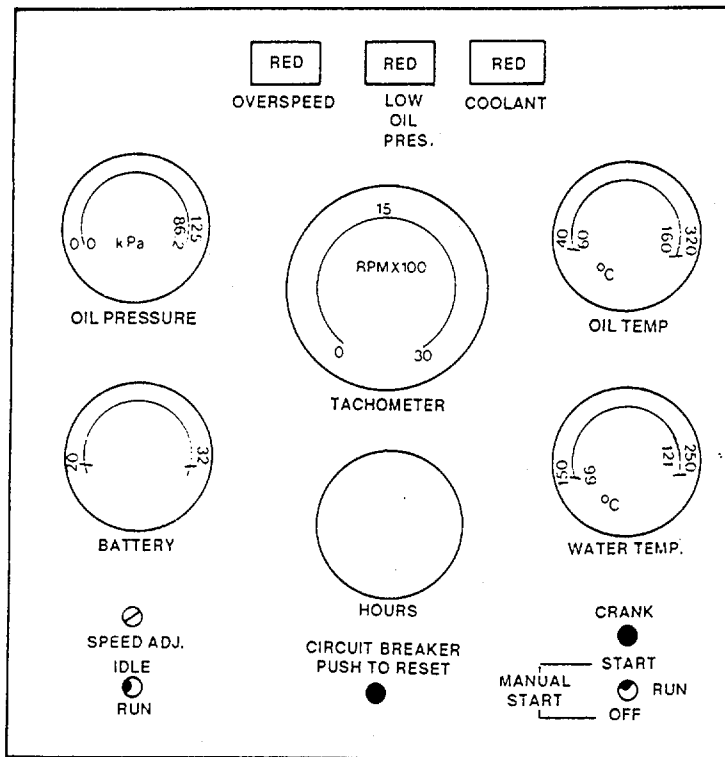

FIGURE 2-1. Instrument Panel Arrangement.
- (4) Set the instrument panel toggle switch to "START" and press starter button (Figure 2-1).
- (5) Run engine for 5 minutes and turn engine off.
- (6) Wait 5 minutes and check oil level. Add as required.
- (1) Place the Idle-Run Switch on the engine instrument panel in the "Idle" position (Figure 2-1).
- (2) Start the engine.
- (3) Check the idle speed on the tachometer. It should reach 600 to 650 rpm.
Adjust the idle speed potentiometer as necessary by turning the adjusting screw on the instrument panel (Figure 2-1) and monitor the engine tachometer to correct engine idle speed.